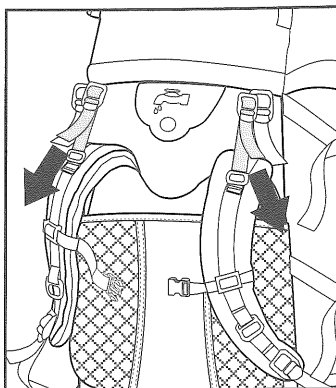

Figure 2G
D. Snug the load-lifter straps (Figure 2G). This lifts the shoulder straps (and the pack's weight) off the top of your shoulders. Don't allow the load-lifters to pull the shoulder straps more than 1/2 inch off your shoulder, or it will create pressure points. If the pack feels better the more you pull the load-lifters, the stays might need to be adjusted.